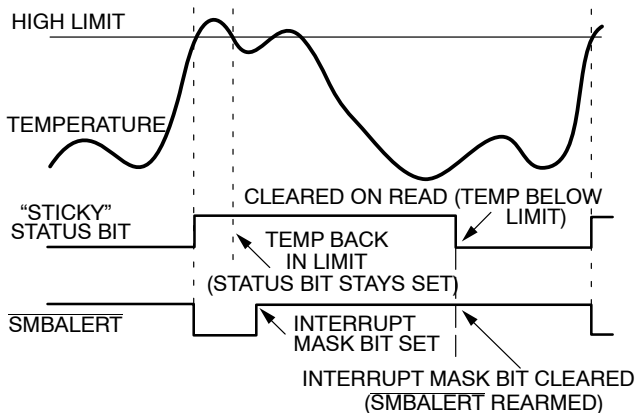

Figure 28. Effect of Masking the Interrupt Source on **SMBALERT** Output
7. Periodically poll the status registers. If the interrupt status bit has cleared, reset the corresponding interrupt mask bit to 0. This causes the **SMBALERT** output and status bits to behave as shown in Figure 28.